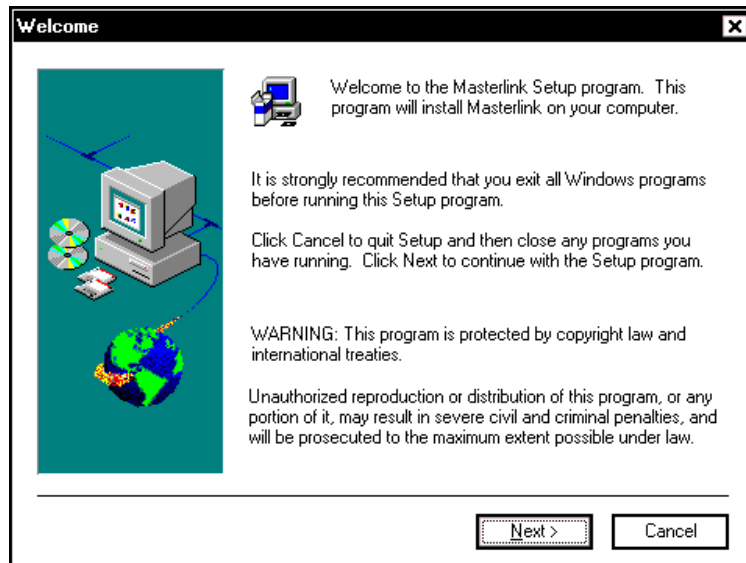

Figure 1.4, Welcome dialogue
7. After a short delay, the user will be presented with the dialogue shown in **Figure 1.4**.